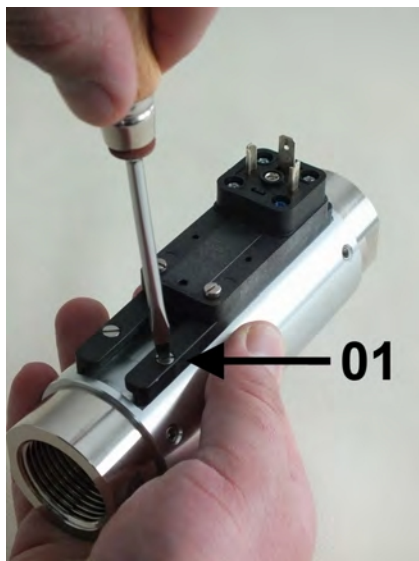

Fig. 55: Release the guide rail
4. Loosen one of the two screws (Fig. 55/1) of the guide rail.
9. ▶ Fasten the guide rail. (Fig. 55/1)